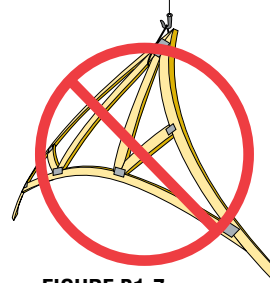

FIGURE B1-7
**NOTICE** Avoid Lateral Bending when hoisting Trusses (see Figure B1-7).